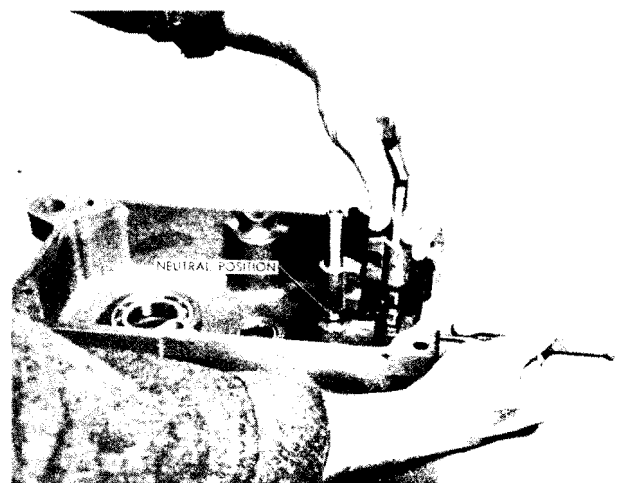

FIGURE 8
14. Place the shift forks in neutral and remove first the low and reverse shift rail and fork assembly, then the 2nd and high shift rail and fork assembly, being careful not to lose the two stop balls, spring and stop pin as they are released. Figure 8.